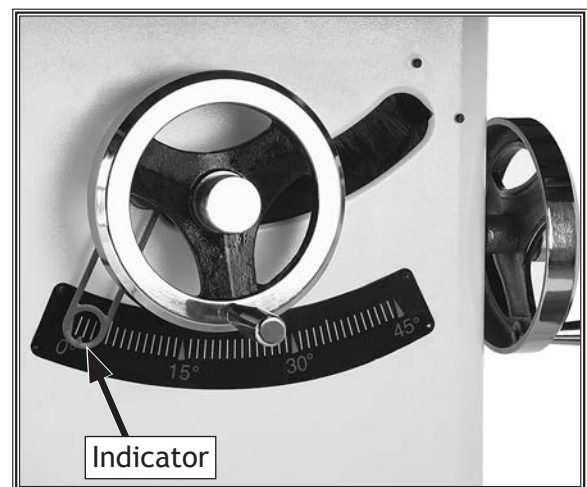

Figure 95. Tilt indicator arrow.
- If the blade is 90° to the table, then adjustments do not need to be made. Make sure the tilt indicator arrow shown in **Figure 95** points to the 0° mark on the scale. Adjust the position by loosening the button head screw, moving the indicator with your fingers, then tightening the screw.